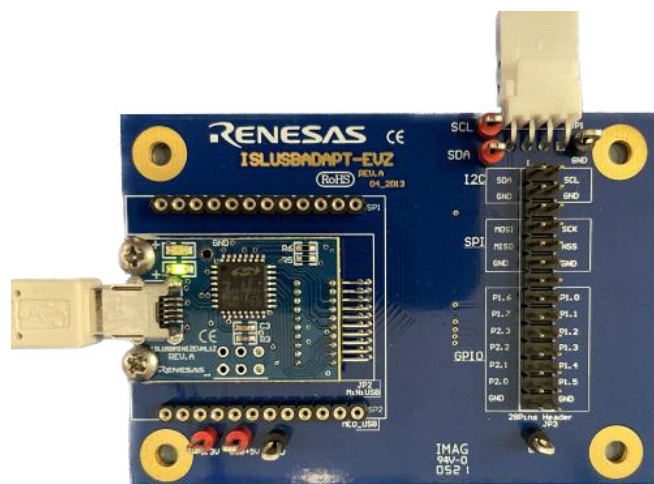

Figure 7. HID USB-I2C Interface Board
- A green LED turns on in the HID USB-I2C interface board when communication between the computer and the HID USB-I2C interface board is established (see Figure 7).